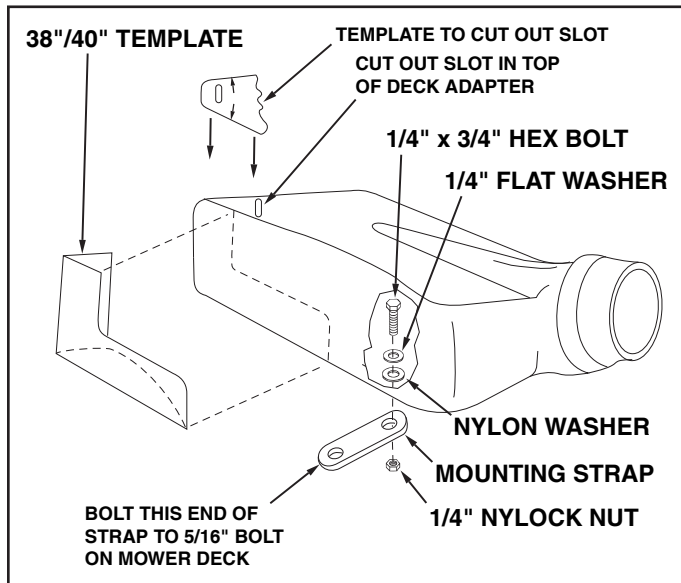

FIGURE 29
1. Cut out two templates and place on deck adapter as shown in figure 29. Tape smaller one on top and larger one on the side and bottom. After they are in place, carefully mark around the templates, then cut out adapter to obtain correct opening.
2. Bolt end of mounting strap to the 5/16" bolt on the mower deck. The other end of the strap will bolt to a hole in the deck adapter, which must be drilled. Position the adapter on the deck, then drill a 5/16" hole in the bottom of the adapter that will align with the hole in the strap. Fasten the adapter to the strap using a 1/4" x 3/4" hex bolt, 1/4" flat washer, nylon washer and 1/4" nylock nut. See figure 29.